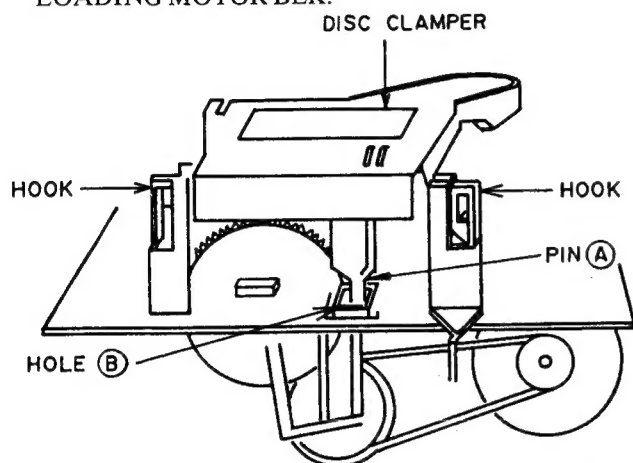

Fig. 4-3
- 1) Remove DISC CLAMPER while releasing the HOOKs as shown Fig.4-3.
- 2) When reassembling the DISC CLAMPER, set the PIN (A) of the DISC CLAMPER into the HOLE (B) on the LOADING MOTOR BLK.